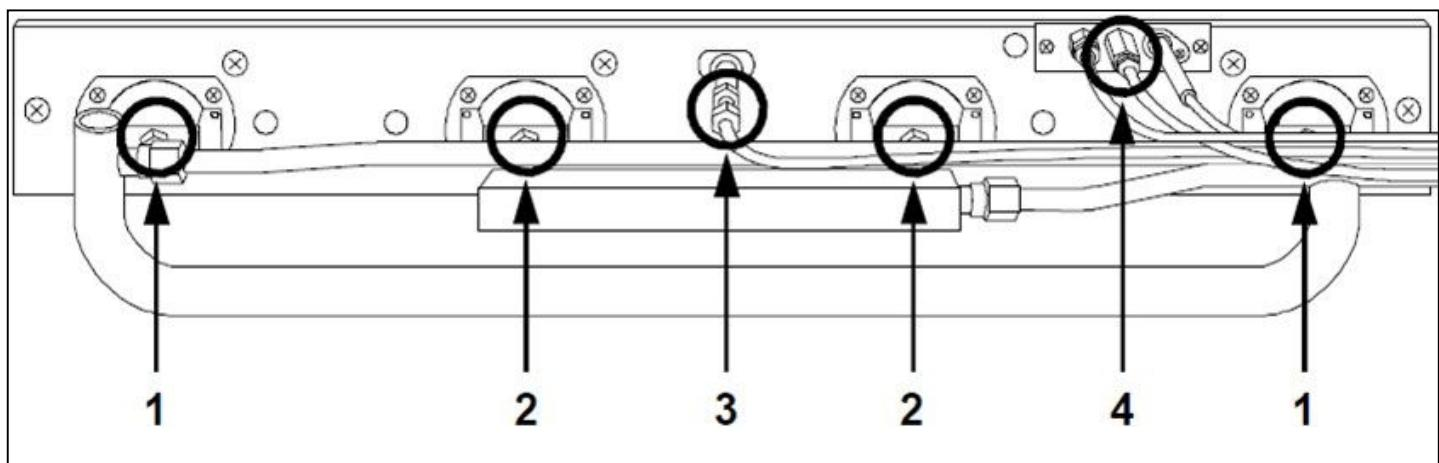

FIG.8
Replace the injector (fig.8-ref.3) as indicated in the technical data table for the oven model purchased.
Unscrew the fitting (fig.8-ref.4) and replace the injector with the appropriate injector as indicated in the technical data table for the oven model.